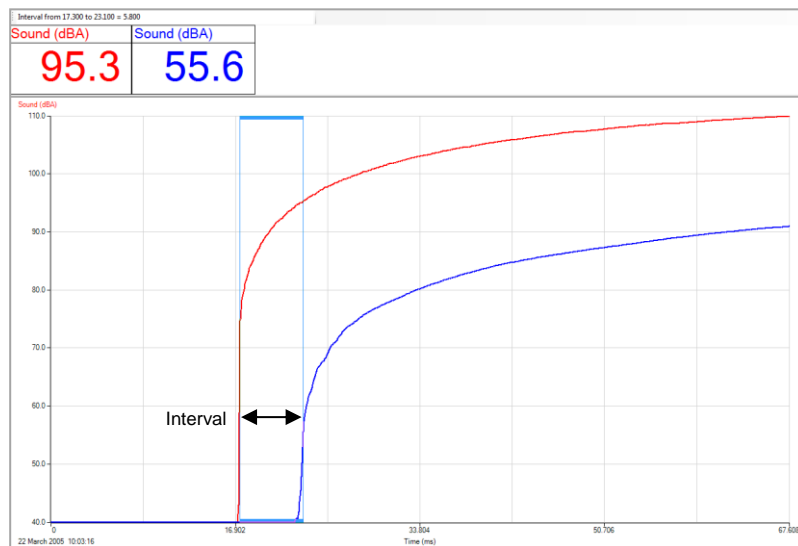

Fig.1: Result when using the dBA range (Zoom In applied)
E.g. Fig 1. = $\frac{2 \text{ m}}{5.80 \text{ ms}} \times 1000 = 344.8 \text{ m/s}$